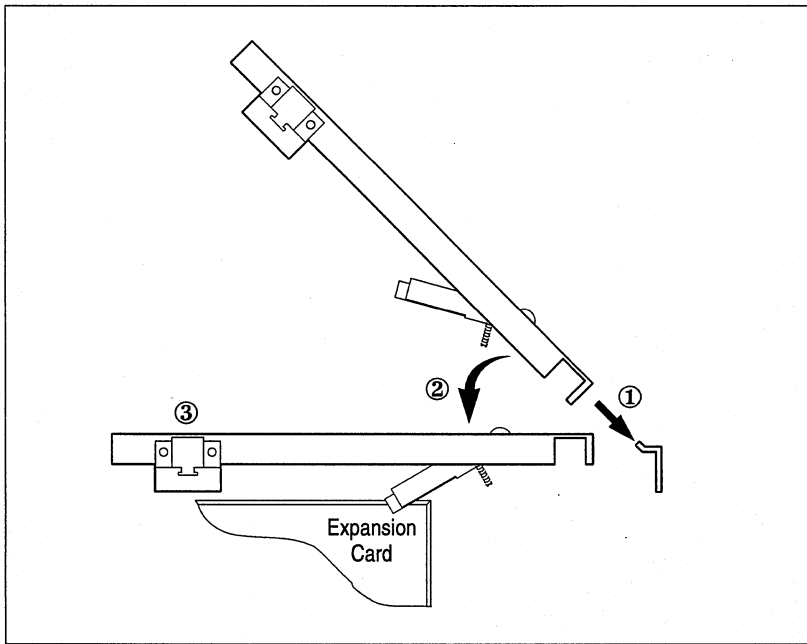

fig. A-23
1. Working at an angle, align the bracket holes on the retention plate with the two hooks on the mounting bracket (fig. A-23).
2. Lower the retention plate — aligning the card retainers with their expansion cards — until the plate is parallel to the expansion cards (fig. A-23).
3. Make sure the side hooks snap into the appropriate opening on the PAC's chassis (fig. A-23).